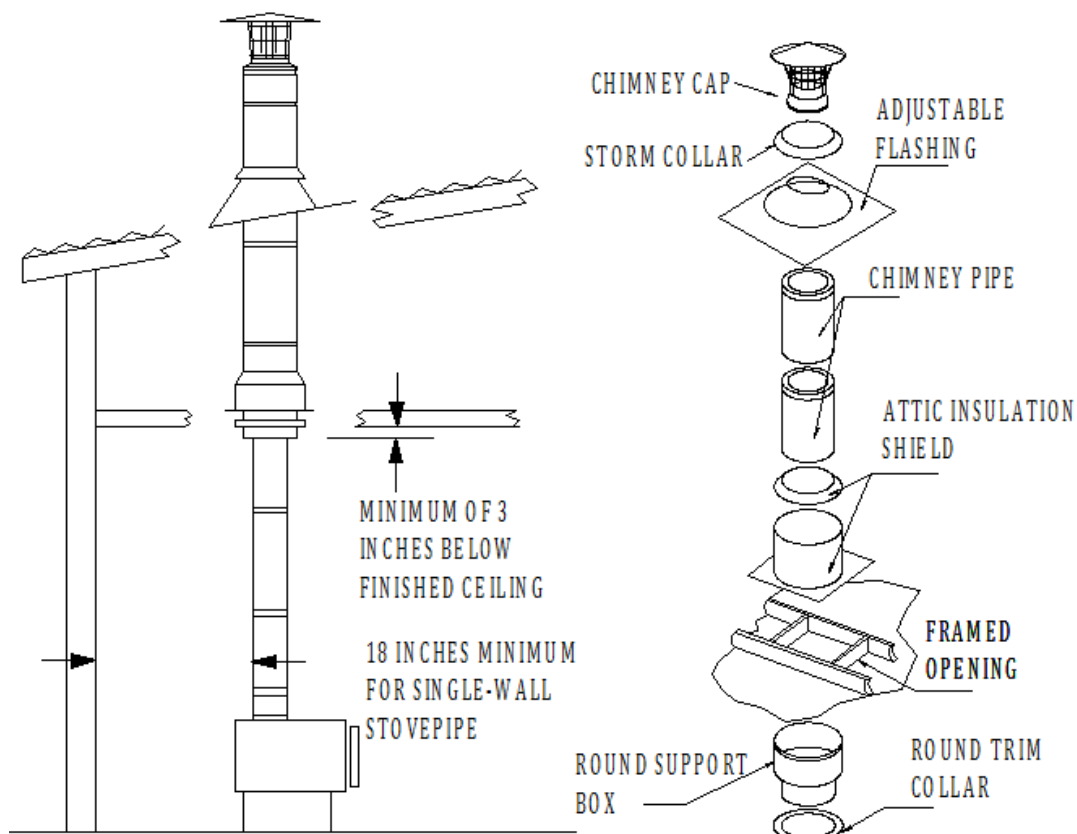

Fig.3
**2. Frame Support Opening:** Drop a plumb bob to the center of the appliance's flue outlet and mark this center point on the ceiling. Refer to Table 1 for specific framing and clearance dimensions. Mark appropriate cutting lines around the center point. Cut a square hole in the ceiling for the Support Box. Frame a level, square opening centered over the hole which you have cut. (Figure 3 and 4).